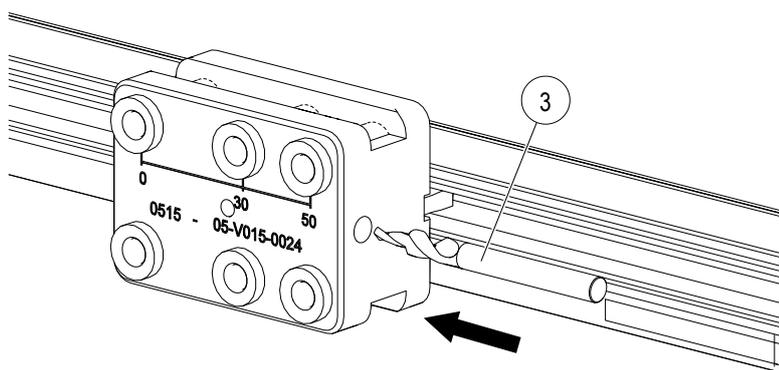

Fig. 88: Step drill M3 90° into lateral drill hole
- To adjust the drilling depth, insert the step drill M3 90° (3) into the lateral drill hole on the drilling jig up to the mechanical stop (see Fig. 88).